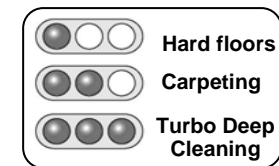

Fig. 8
- To change the speed of the sweeper, press on the speed control button. As you press on it, the speed indicator light will change. If one light lights up, you have the low speed for hard floors; two lights, medium speed for carpeting; three lights, high speed for turbo deep cleaning. (Fig. 8)